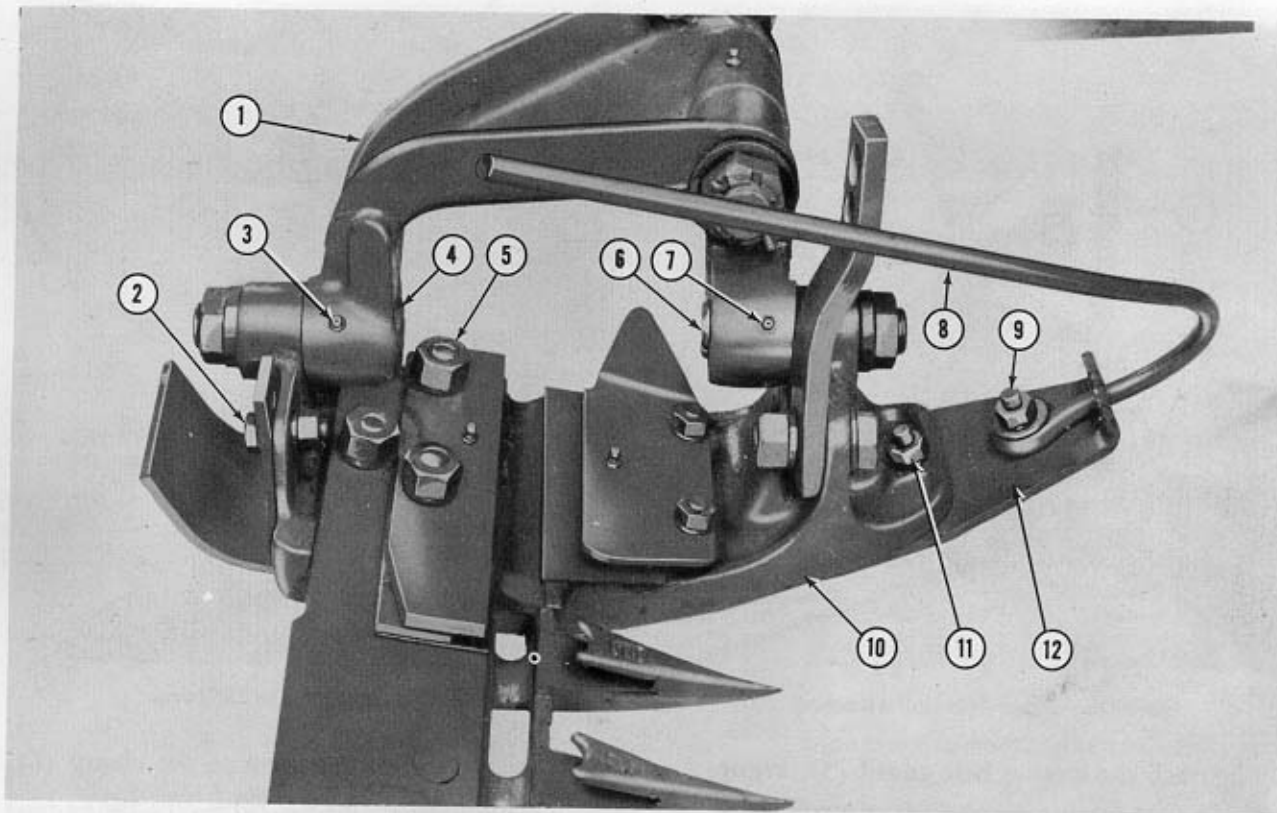

Figure 6
8. Attach the cutter bar inner shoe (10), Figure 6, to the drag bar hinge (1) as follows:
- a. Remove the nut (5) from the knife guide plate bolt and position the hinge between the holes on the inner shoe as shown.
- b. Coat the hinge pins with grease, align the holes and insert the hinge pins (4) and (6), Figure 6, from the inside out.
- c. Replace and tighten the nut (5), Figure 6, and secure the hinge pins with lock washers and nuts provided in the bag of parts.
- d. Insert the fittings (3) and (7), Figure 6,
9. Attach the inner shoe sole (12), Figure 6, to the inner shoe (10) with a $\frac{7}{16}$ " x $1\frac{1}{2}$ " carriage bolt (11) lock washer and nut. Attach the rear of the sole to the shoe in the desired hole with a $\frac{1}{2}$ " x $1\frac{1}{4}$ " bolt (2), lock washer and nut.
10. Attach the grass rod (8), Figure 6, to the forward end of the sole (12) with a $\frac{7}{16}$ " x $1\frac{1}{2}$ " carriage bolt (9), flat washer, lock washer and nut as shown.